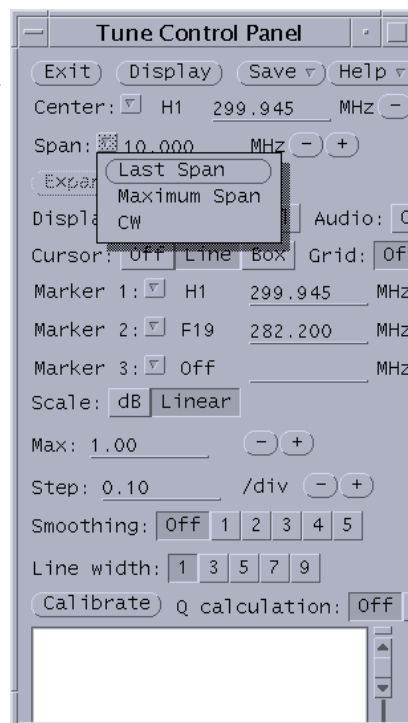

Figure 27. Pull-Down Menu
2. In the **Span** field, click on the triangle to open the Span pull-down menu (see Figure 27).